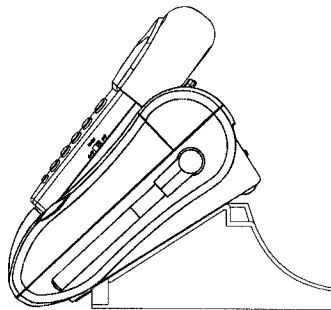

Figure 4
2. **30° Position (See figure 4)**